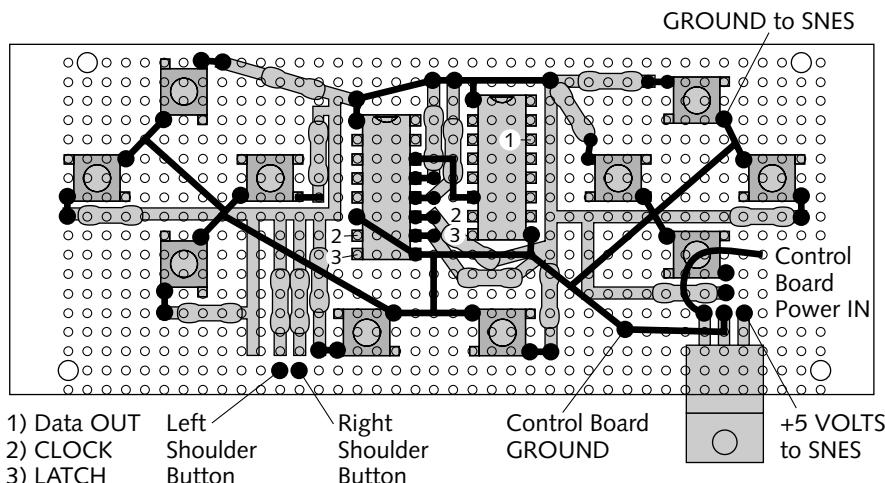

FIGURE 11-18: The first layer of things to connect on the rear of the control board.
Figure 11-18 shows the lead connections to make on the rear of the control board. I call these “lead connections” because you can use the leftover ends of all the resistors to do this wiring.
- The *To control board power IN* and *To control board ground* connections should be made using the 10" wires you attached to the control board as shown in Figure 11-18, back in the *Making and installing the control board* section.